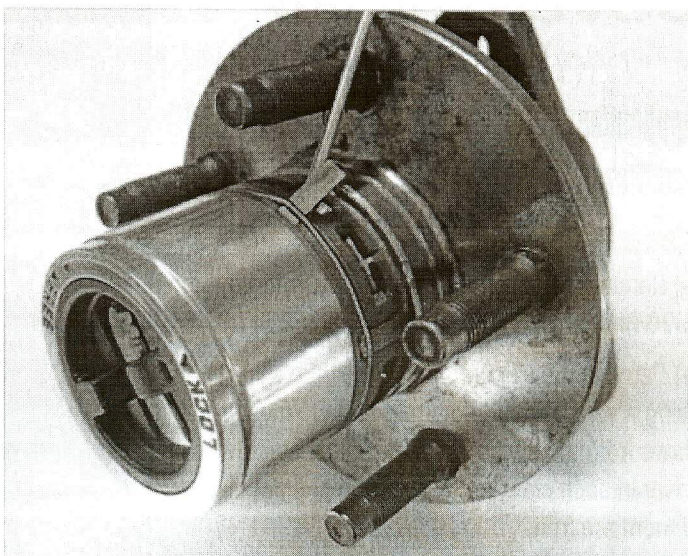

FIGURE 6
- 2-) Using a screwdriver of proper size, remove the four keyways (), as shown in (Fig 6) without removing the spring ring.